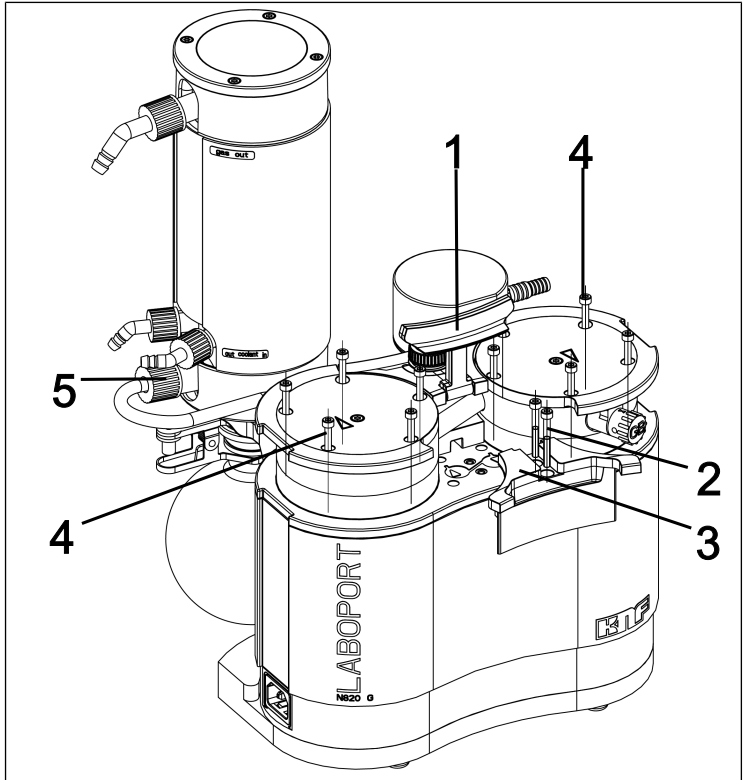
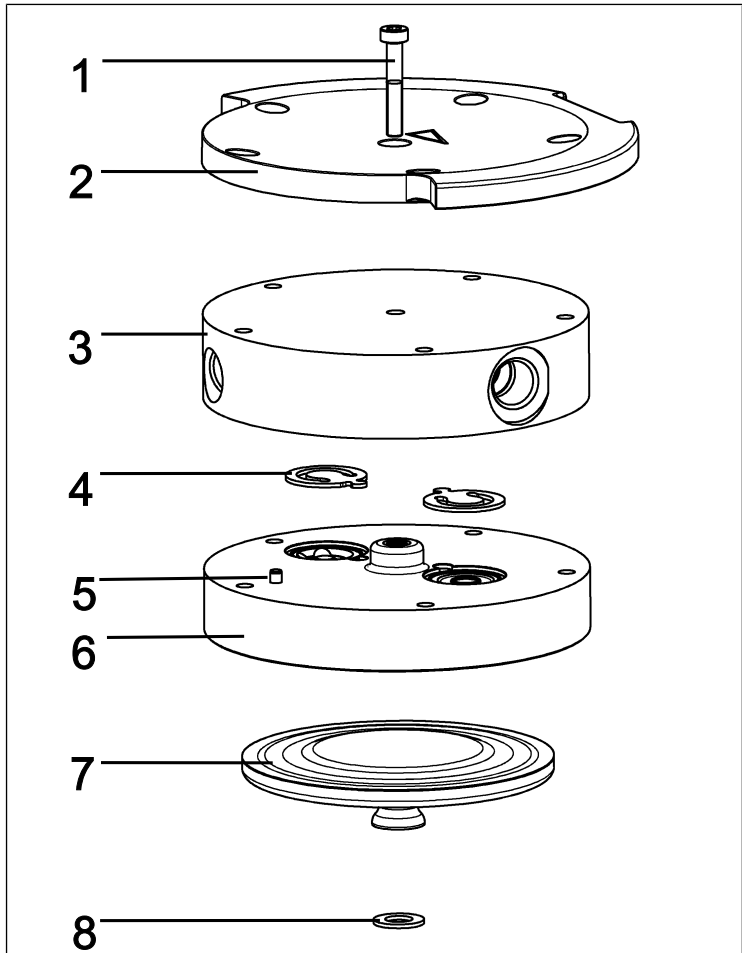

Fig.12: Remove handle cover
Fig.13: Pump head (pump N820 shown)
3. Remove the union nut of the hose connection (5/ Fig. 12) from the vacuum system components.
4. Put the handle (1/ Fig. 12) into a vertical position.
5. Loosen the two screws (2/ Fig. 12) of the handle cover (3/ Fig. 12).
6. Remove the handle cover (3/ Fig. 12).
7. Loosen the 10 external head screws (4/ Fig. 12) on both pump heads.
8. Remove the 10 external head screws (4/ Fig. 12) from both pump heads.
- i** The two internal head screws (1/ Fig. 13) remain tightened for the time being.
**i** The following item numbers refer to Fig. 13, unless specified otherwise.
1. Mark the pressure plate (2), head plate (3) and intermediate plate (6) with a continuous pencil stroke. This prevents the parts from being incorrectly mounted later on.
2. Remove the external screws (4/Fig. 12) of the pump heads.
9. Insert the 10 external screws (**4**/Fig. 12) in the pump head and tighten them in a crosswise pattern (tightening torque: SH/SR820G: 4 Nm; SR/SH840G: 5 Nm)
- i** If the external screws (**4**/Fig. 12) cannot be inserted into the pump head, loosen the internal head screw (**1**) and check the seating of the head plate (**3**) on the intermediate plate (**6**).
11. Hand-tighten the union nut of the hose connection (**5**/Fig. 12) on the high-performance condenser (**2**/Fig. 3).
1. Mount the handle cover (**3**/Fig. 12).
2. Tighten the screws (**2**/Fig. 12) of the handle cover (**3**/Fig. 12) (tightening torque: 2 Nm).